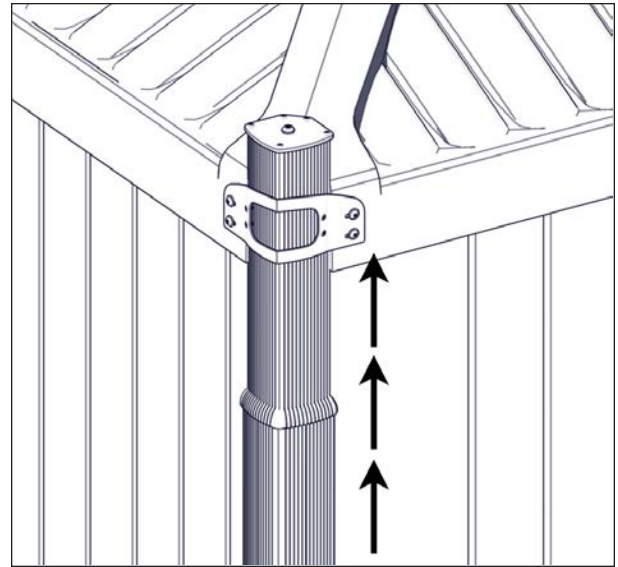

FIGURE 68: SLEEVE INSTALLATION CHECKING
7. Check the installation of the brackets by trying to lift each sleeve. Review previous steps for any broken screws or to retighten screws if the sleeve keeps moving see Figure 68.